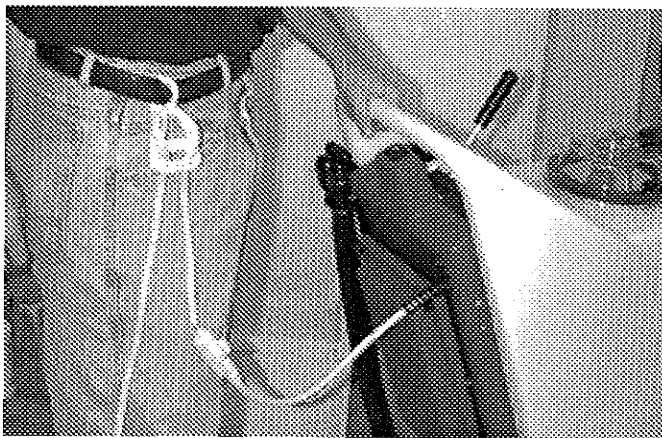

FIG. 3
3. Plug cord into machines pig tail cord and attach power cord to belt clip. Fig. 3